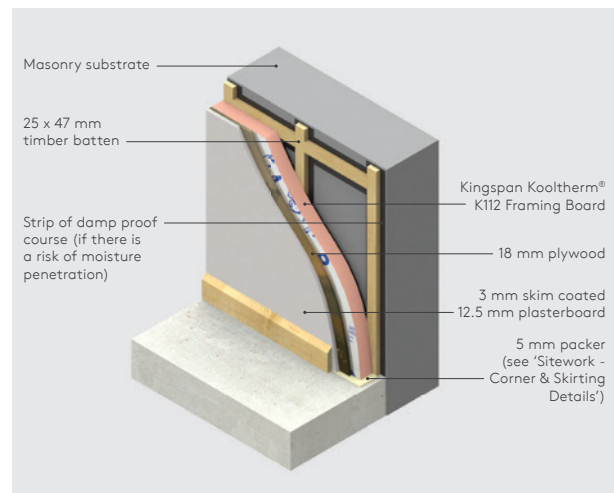

Figure 9 - Mechanically Fixed Construction Suitable for Heavy Internal Fittings
- Alternatively, where there are to be extensive heavy internal fittings, the construction outlined in Figure 9 can be adopted.